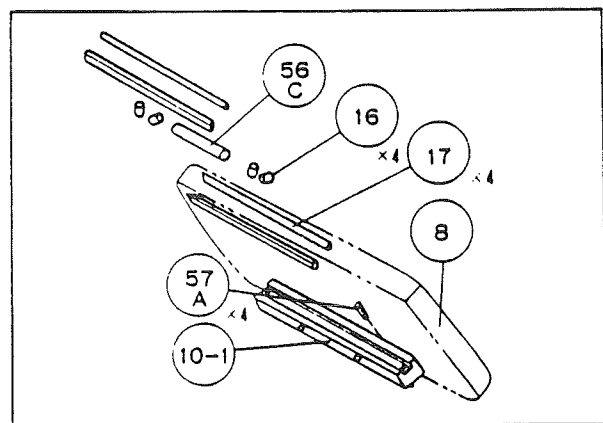

Fig. 23
- 1) Attach lens chamber (6) (with (G1) and (G2) inside, to be positioned as  thicker) to prism holder (9), using washer (58A) and screw (51A) x 2.
- 2) Insert lenses (G4) and (G5) (positioned as  thicker) into prism holder (9), and fix them with retaining ring (18).
- 3) Place cylindrical rollers (16) x 4 and parallel pin 56C on the fiducial roller race (10-1) attached to binocular body attaching plate (8-1), through (17) x 2 (Fig. 23). Apply oil G7920 to (16) and (56C).
- 4) Place the lower side of roller race (9) onto cylindrical rollers (16) of the above cited fiducial rollers race (10-1), and (16) x 4 and (56C) onto the upper surface of roller race (9), through (17) x 2.
- 5) Apply adhesive No. 616 to the contact surface (81) (at three points), and attach (8-1) to (10-1) with screws (52A) x 2 temporarily.
(9) on the upper surface of